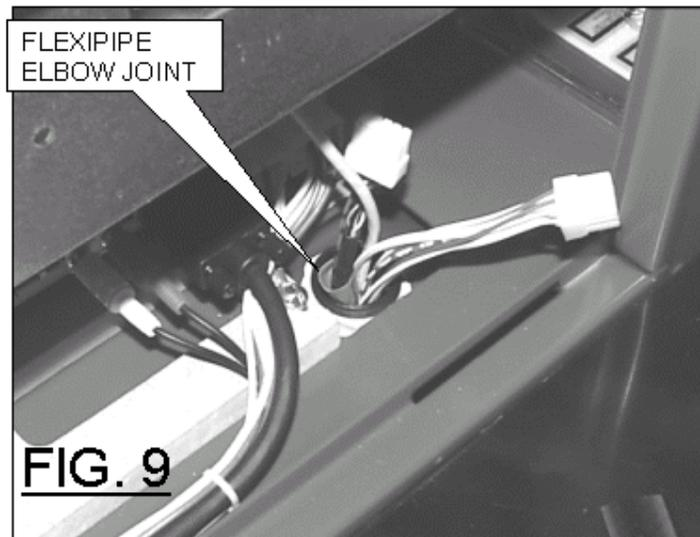

FIG. 7
8. Move the Coin Tower and Floor Assembly onto its side (Fig 6) and thread the Flexihose through the ribs on the underside of the Floor. (Fig 7)